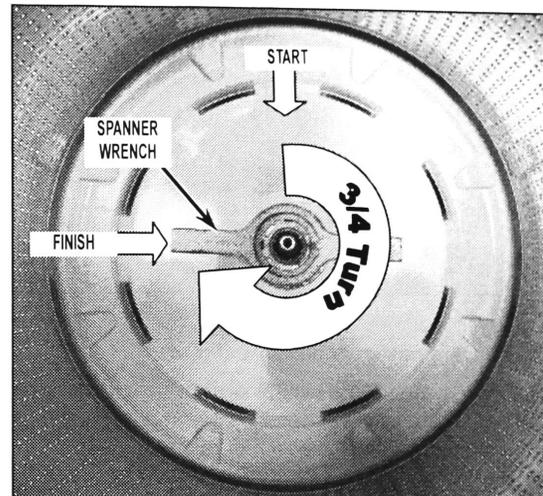

FIGURE 9
11. Tighten spanner nut 3/4 of a turn by lightly tapping spanner wrench with a hammer. See *Figure 9*.